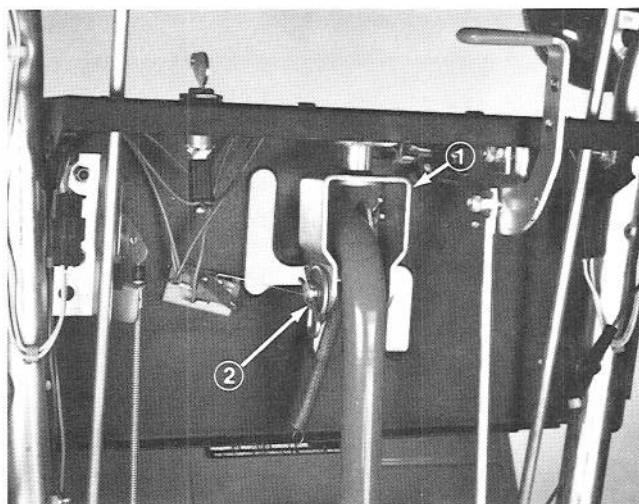

Figure 40
2. Disengage back of wheel drive control from U-shaped pivot bracket by removing hair pin cotter, flat washer and clevis pin (Fig. 40). Move control away from U-shaped pivot bracket.
3. If snowthrower drive does not disengage, rotate U-shaped pivot bracket (Fig. 40) inward one half — 180° — turn.
4. Install back of wheel drive control between U-shaped pivot bracket with clevis pin, flat washer and hair pin cotter (Fig. 40). Head of clevis pin must be on right side.